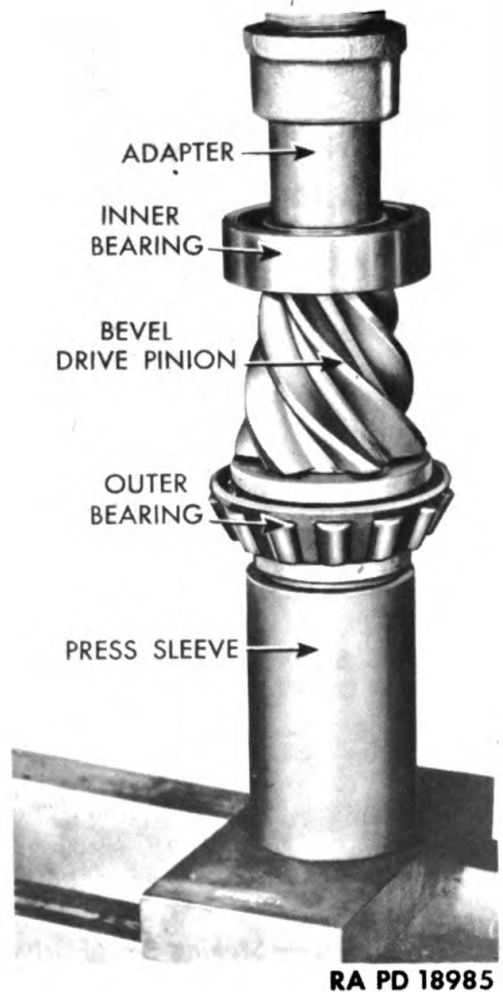
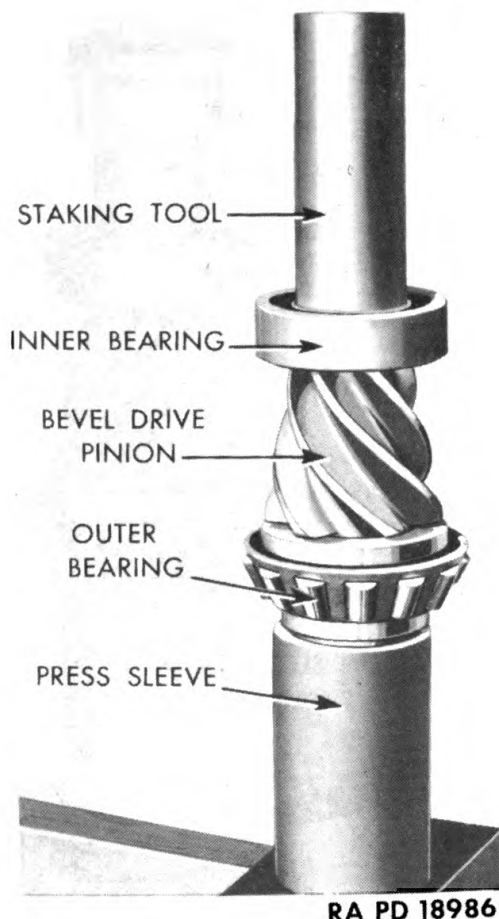

Figure 63 — Installing Bevel Drive Pinion Bearing
Figure 64 — Staking Bevel Drive Pinion Bearing
(2) **INSTALL BEVEL DRIVE PINION BEARINGS ON PINION.** Warm bevel drive pinion outer roller bearing in hot oil, and press bearing onto bevel drive pinion. Force inner or straddle bearing over end of pinion and press into place (fig. 63). Stake straddle bearing in place, using press and special staking tool (fig. 64).